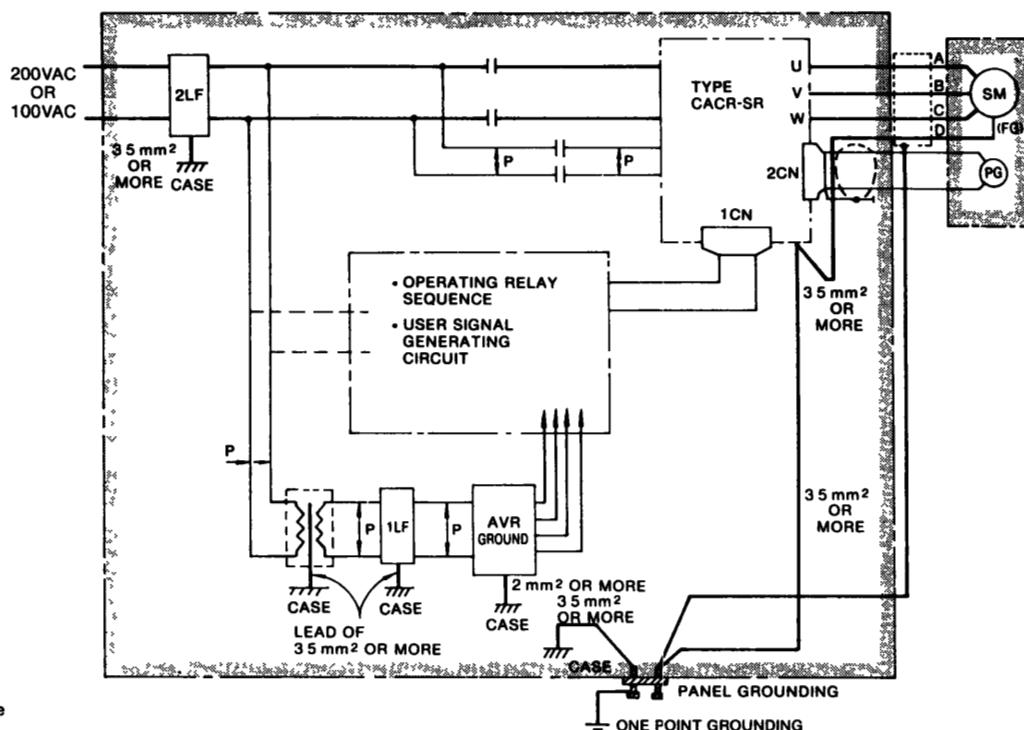

Fig. 6.14 Grounding Method
The SERVOPACK incorporates CPU. This requires wiring and treatment to prevent noise interference. To reduce switching noise as much as possible, the recommended method of wiring and grounding is shown in Fig. 6.14.
(1) Grounding method (Fig. 6.14)